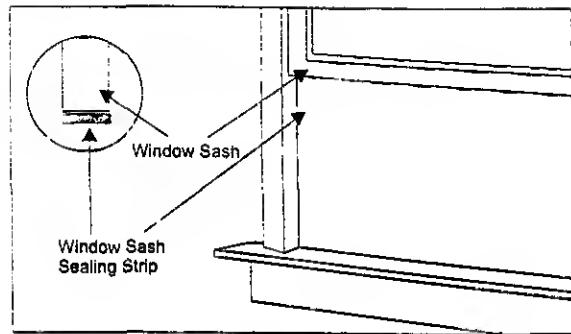

Fig. 12
D. Cut the 1st foam sealing strip to fit the underside of the bottom **window sash**. Remove the peel-off backing on the foam and attach it to the sash. See (Fig. 12)
D Cut the **first foam sealing** strip to fit the underside of the bottom **window sash** Remove the peel-off backing on the foam and attach it to this sash See (Fig. 12)